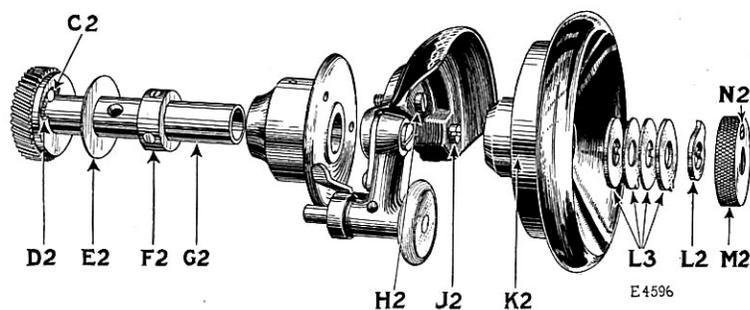

FIG. 17. VIEW OF PARTS REMOVED FROM THE MACHINE SHOWING CLUTCH ROLLER AND CLUTCH SPRING
1. Worn clutch roller (C2, Fig. 17).
2. Weakened or broken clutch spring (D2, Fig. 17). (The clutch spring should be strong enough to force the clutch roller against the bearing surface of the clutch gear).
Remove the motor from the machine as instructed on page 12. Loosen the screw (N2, Fig. 17) in the stop motion thumb nut (M2, Fig. 17) at the right of the balance wheel and unscrew the
thumb nut (M2). Then remove the washer (L2, Fig. 17), the four washers L3, loosen the two set screws in the hub of the balance wheel and remove the balance wheel. Take out the two screws (H2 and J2, Fig. 17) which fasten the bobbin winder bracket and belt cover to the machine, and slide the bracket off the arm shaft, being careful not to spring the arm shaft. Withdraw the bushing (G2, Fig. 17)
upon which the gear clutch is mounted, then loosen the two set screws in the collar (F2, Fig. 17, page 18) and slide the collar and washer (E2, Fig. 17) away from the gear clutch. Remove the roller (C2, Fig. 17) and spring (D2, Fig. 17) and thoroughly clean the spring and roller bearing in the gear clutch.
Replace the spring and roller in the bearing in the gear clutch, being careful to see that the spring bears evenly against the roller. Place the washer (E2, Fig. 17) as closely as possible to the gear clutch without causing the gear to bind, then fasten the collar against the washer (E2) by means of the two set screws.
Replace the bushing (G2, Fig. 17) on the arm shaft. Then replace the bobbin winder bracket and belt cover and firmly fasten it by means of the two screws (H2 and J2, Fig. 17). Replace the balance wheel and before tightening it, slip washers (L3, Fig. 17) over the end of the arm shaft in the following order: first, the thick washer with inside key in keyway of arm shaft; second, the thin washer with outside key in keyway of balance wheel; third, the thin washer with inside key in keyway of arm shaft; fourth, the thick washer with outside key in keyway of balance wheel. Next slip washer (L2, Fig. 17) over the end of arm shaft with the key in the keyway of the shaft. Then replace the stop motion thumb nut (M2, Fig. 17) and screw it on the shaft as far as it will go, after which tighten the screw (N2, Fig. 17) in the stop motion thumb nut. See that the screw (N2) does not bear on the projection on the outside of the washer (L2), also that there is sufficient clearance between the projection and the screw to release the balance wheel, or to lock it by means of the stop motion thumb nut. If the screw (N2) bears on the projection, or there is not sufficient clearance, loosen the screw (N2), remove the stop motion thumb nut and reverse the position of the washer (L2) on the shaft, then replace the stop motion thumb nut and firmly tighten the screw (N2).